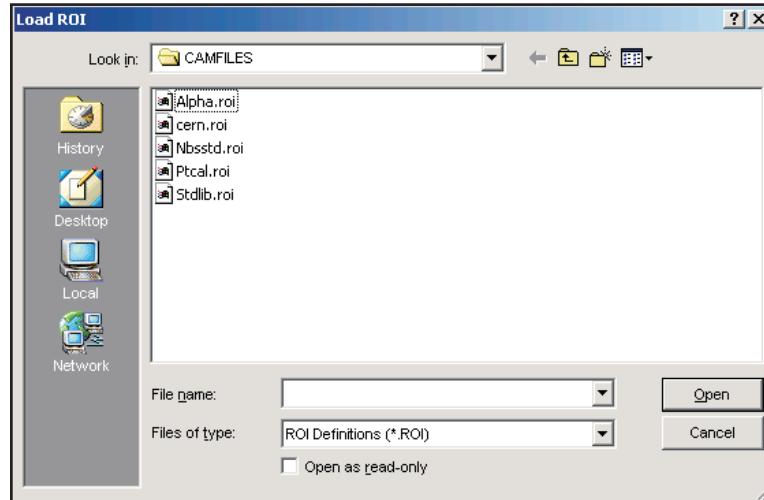

Figure 77 Selecting an ROI File
- Use the Edit | Load ROI function to select a local (on your PC) ROI file from which a set of ROIs will be loaded directly (Figure 77).